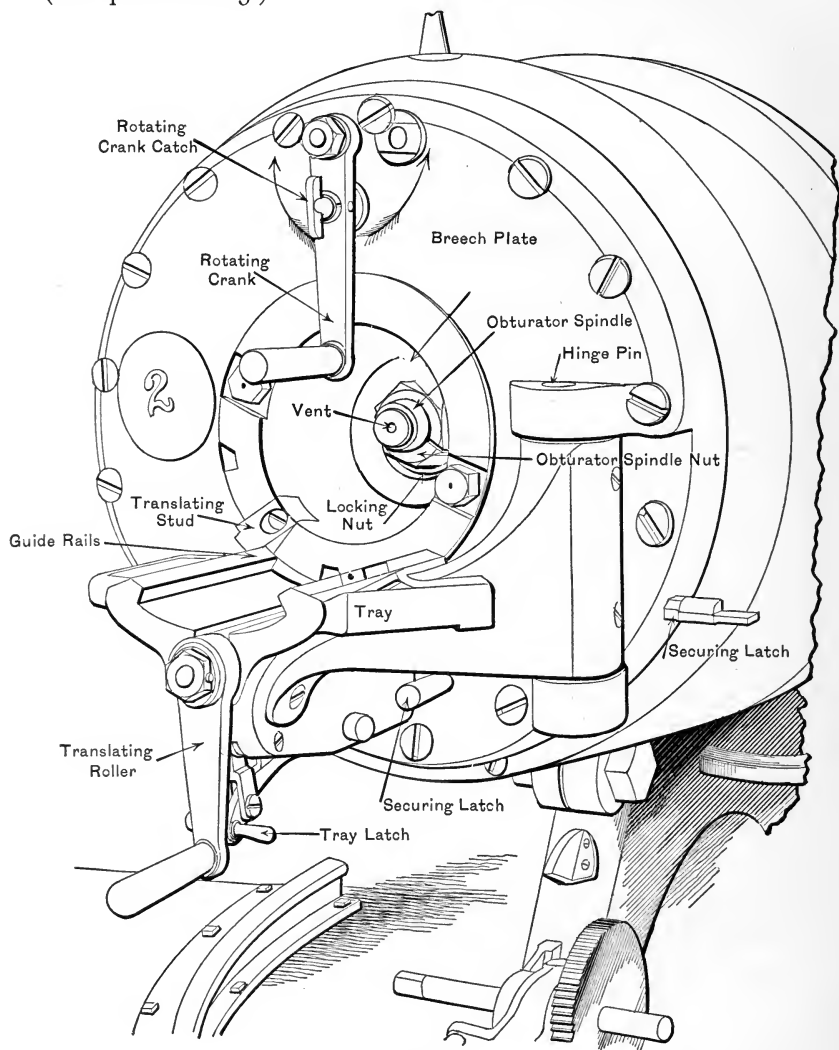
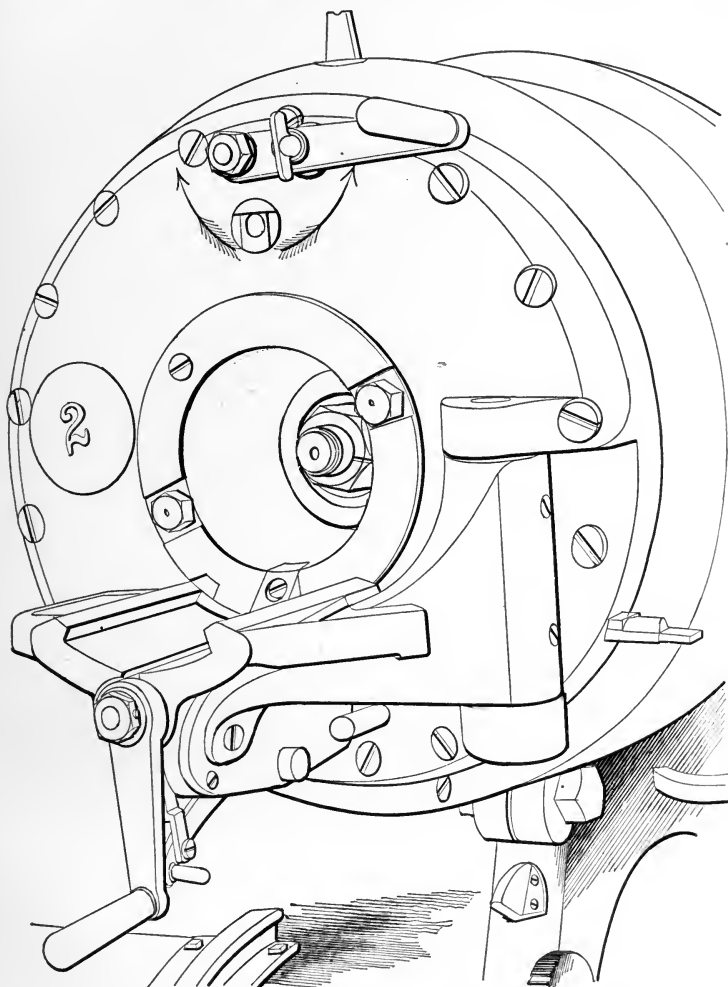

FIG. 1.
FIG. 2.
A. Figure 1 shows breech in normal position—closed. No. 2 turns rotating crank-catch  $90^{\circ}$  to left and turns rotating-crank in the direction of the arrow till it stops (Fig. 2).